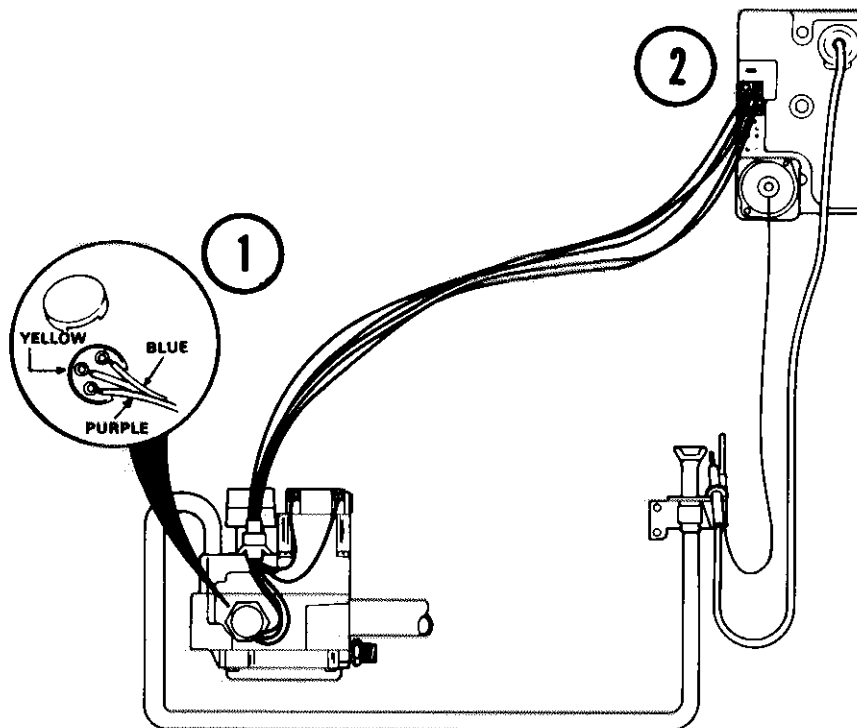

FIGURE 10
- 5 - Pilot Cycles On And Off By Itself (Figure 10).